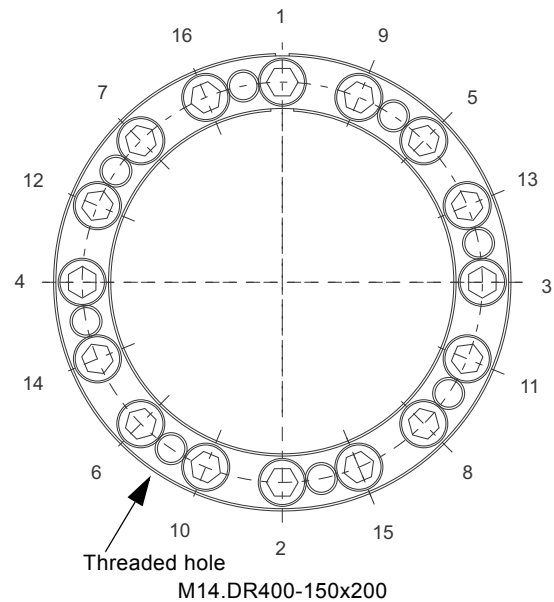

Fig. 34 Example of tightening sequence.
2. Use half of the screws just removed and mount them in the dismantling threads of the top ring. See fig. 34. Cross-tighten the screws gradually and regularly until the top ring comes loose and can be removed.
6. Cross-tighten gradually 1/4 - 1/2 - 1/1 of the torque, see example in fig. 34, and as section 18. Power-lock® illustrates until correct torque has been reached. See fig. 7 for tightening torque for Power-lock®.